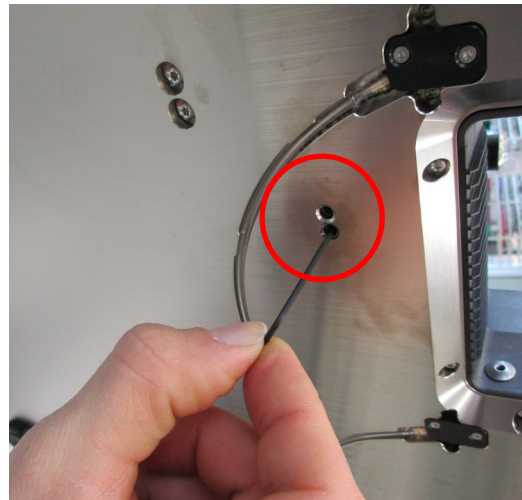

Fig. 2-4: Insertion of Torx key
- Insert the transport safety lock Torx key into one of the two small holes next to the module bay, as shown in Fig. 2-4.